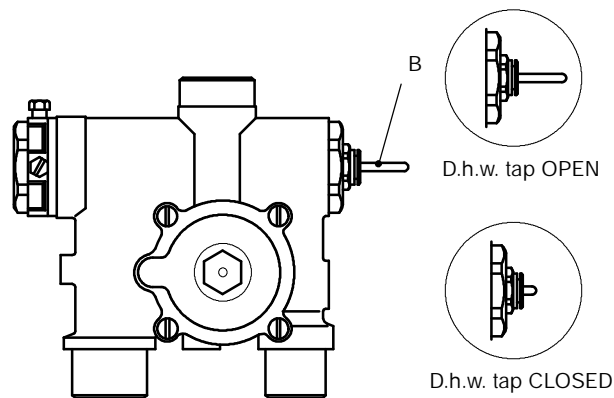

fig. 24
- 3 Open and close a d.h.w. tap and verify the position of the shaft B referring to fig. 24.